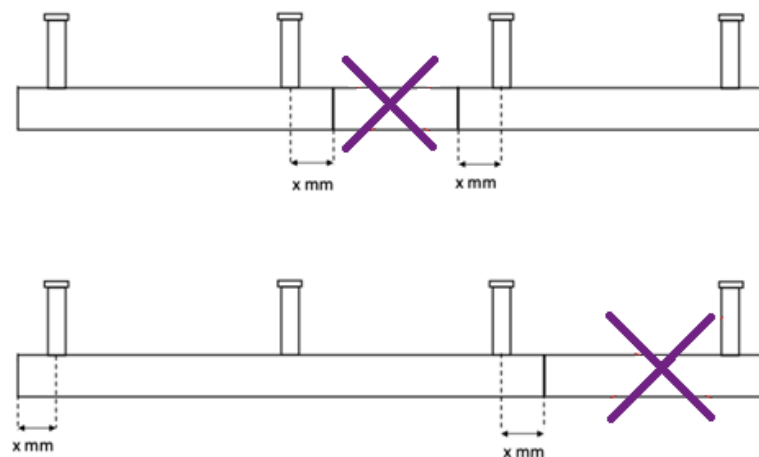

Figure 1: Draft of cutting of anchor channels
- Each channel section needs at least two anchors (see figure 1). The planned adjacent construction is fastened between these anchors.
- The polyethylene (PE) – filler of the anchor channel must be cut and should end flush with the channel profile.